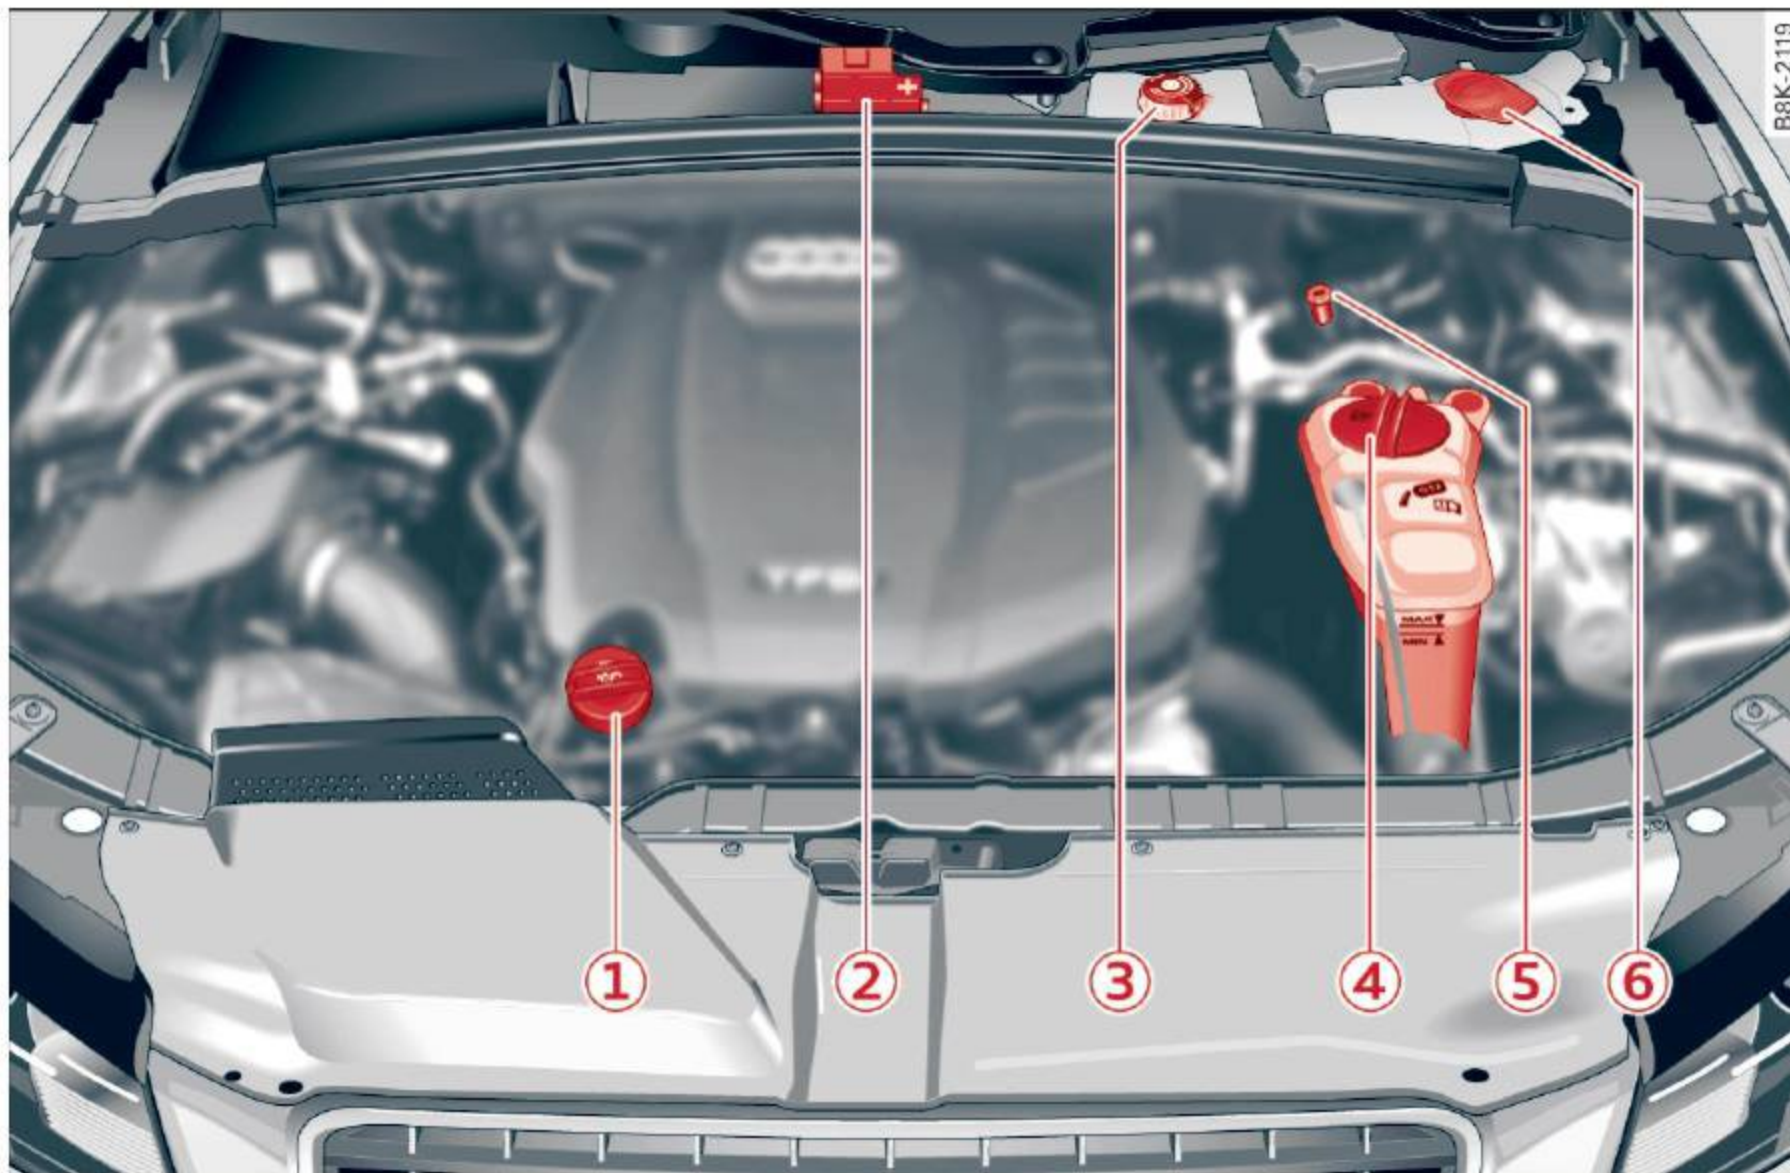

Fig. 160 Typical layout for containers and engine oil filler cap
- ① Engine oil filler cap (🛢️) 197
- ② Jump start point (+) under a cover 205, 239
- ③ Brake fluid reservoir (🚰) 202
- ④ Coolant expansion tank (🌊) 200
- ⑤ Jump start point (-) with hex head screw 205, 239
- ⑥ Windshield/headlight* washer container (🚿) 206
The position of the engine oil filling hole ⇒ fig. 160 (item ③) can differ depending on the engine design.
- ▶ Unscrew the cap  to the engine oil filling hole ⇒ *fig. 162*, ⇒ *page 195*, *fig. 160*.